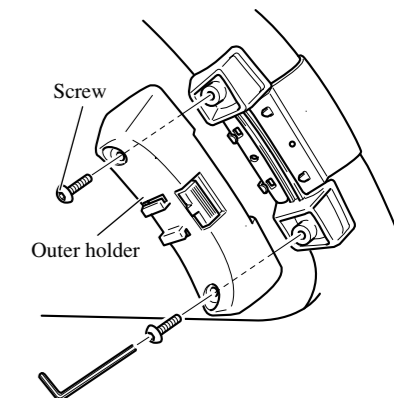

Fig. 16
3. Install outer holder on the inner holder and secure with screws. (Fig. 16)